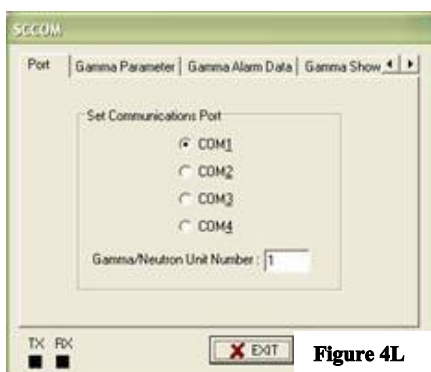
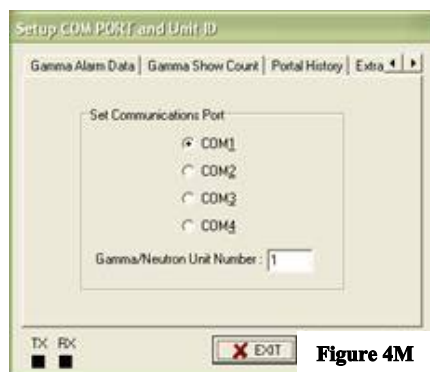
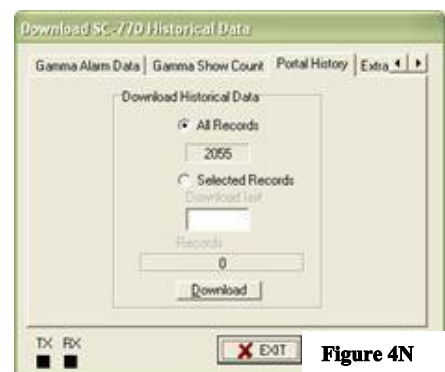

Figure 4L
Figure 4M
Figure 4N
4. The screen in *figure 4L* should appear. Click on the right arrow button until the Portal History tab is showing as seen in *figure 4M*, then click on the "**Portal History**" tab *figure 4N*.